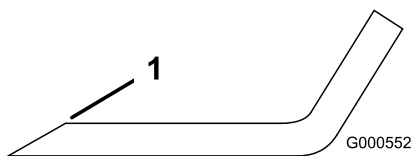

Figure 55
- Use a file to sharpen the cutting edge at both ends of the blade (Figure 55).
Note: If the blade is not balanced, file some metal off the end of the sail area only (Figure 55).